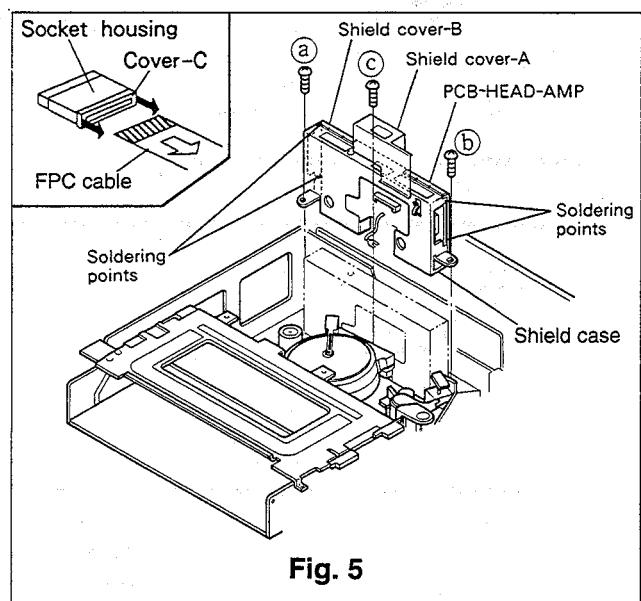

Fig. 5
- C. Disconnect the FPC cable by gently pulling cover-C of the connector [GB], as shown in Fig. 5.
- D. Remove three screws (@~③) retaining the lead wire and the PCB-HEAD-AMP.